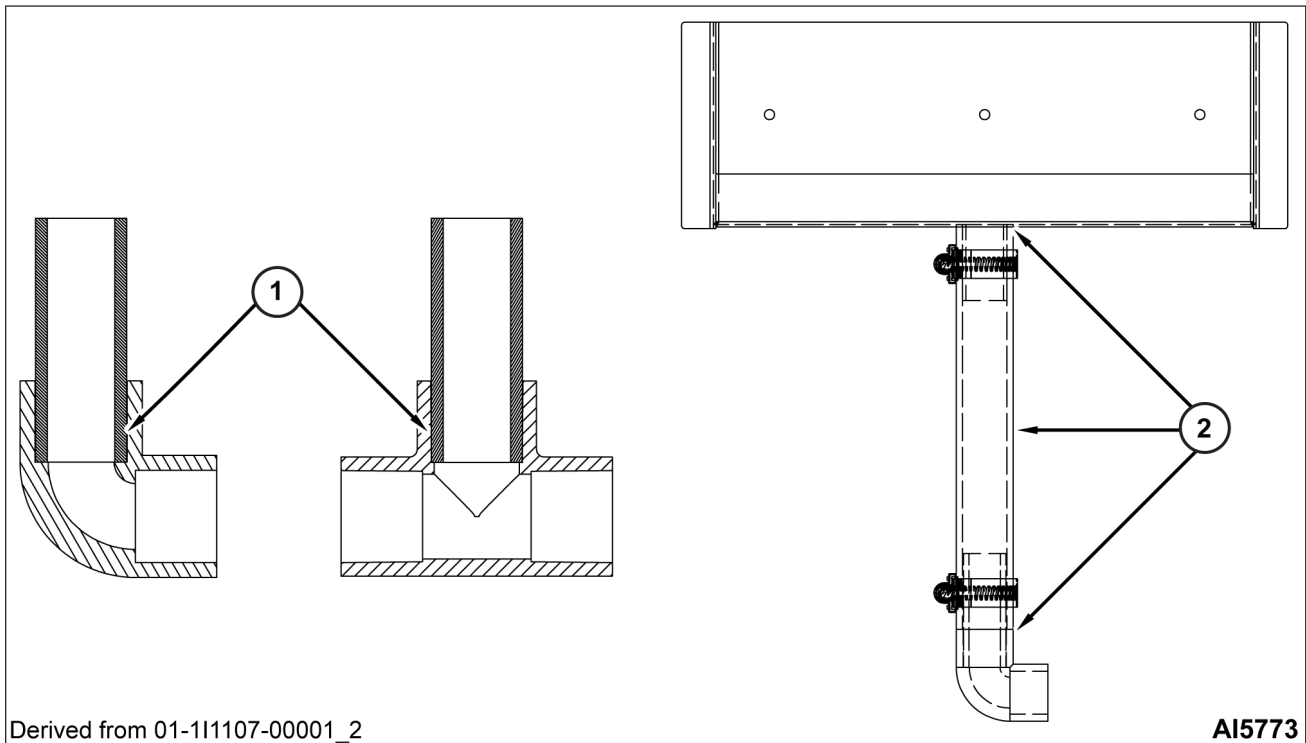

Fig. 46
4. Add primer to all CPVC joints (1, Fig. 46).
5. Add cement to all CPVC joints (1, Fig. 46).
NOTE: This illustration (2, Fig. 46) shows tube fully inserted **after** having been cut to appropriate length.